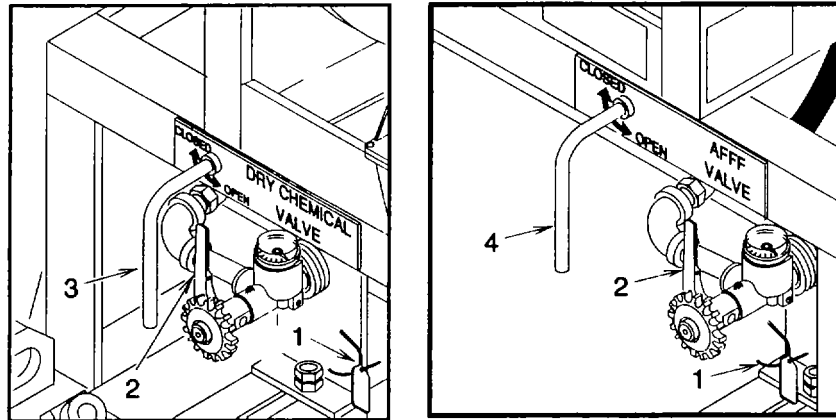

Figure 2-13. Nitrogen Cylinder Valves and Valve Rods Operational Setting
- (1) Break strip ties (1) (fig. 2-13).
(2) Open both nitrogen cylinder quick release valves (2) The AFFF tank will pressurize in 1-2 seconds, the dry chemical tank should pressurize within 10 seconds.